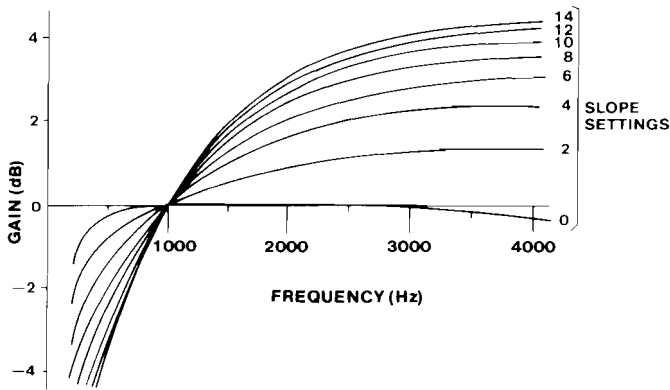
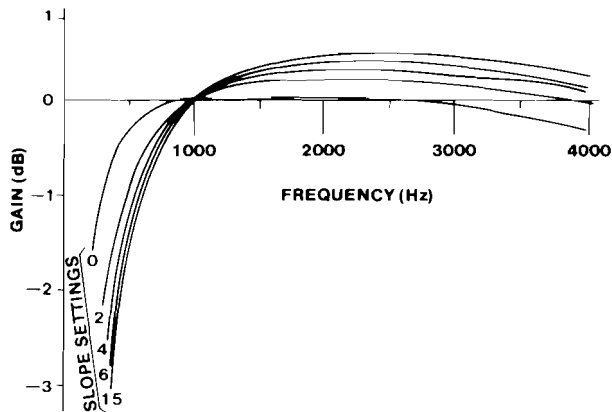

figure 4. Typical response curves for receive and transmit equalizers in slope mode, nonloaded cable
figure 5. Typical response curves for receive and transmit equalizers in slope mode, loaded cable
2.10 Figures 4 and 5 show typical response curves for the 309B-equivalent equalizer in the slope mode. Figure 4 shows the curves for nonloaded cable, while figure 5 shows the curves for loaded cable. For comparison purposes, all frequency-response curves in both figures are drawn with the same 0dB-gain reference point (1004Hz). Actually, all of these curves except those for a SLOPE switch